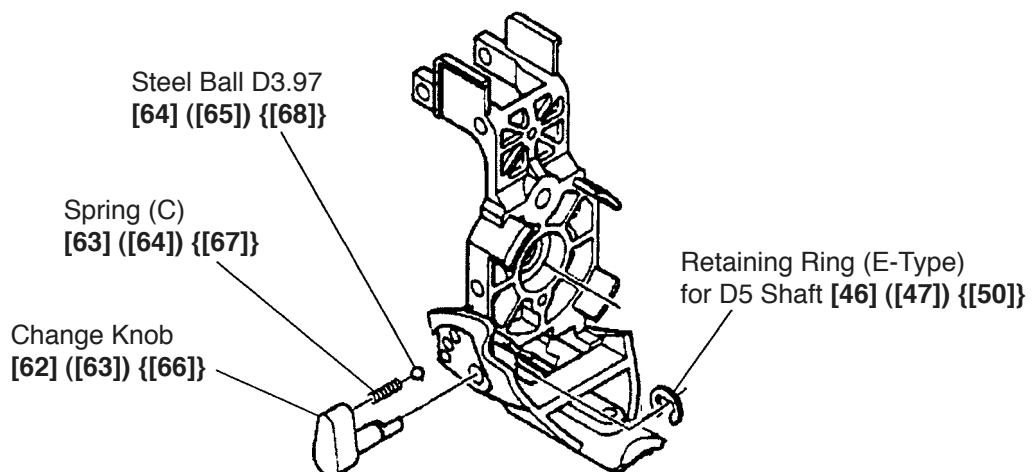

Fig. 14
(8) Disassembly of the Change Knob [62] ([63]) {[66]} (Fig. 14)